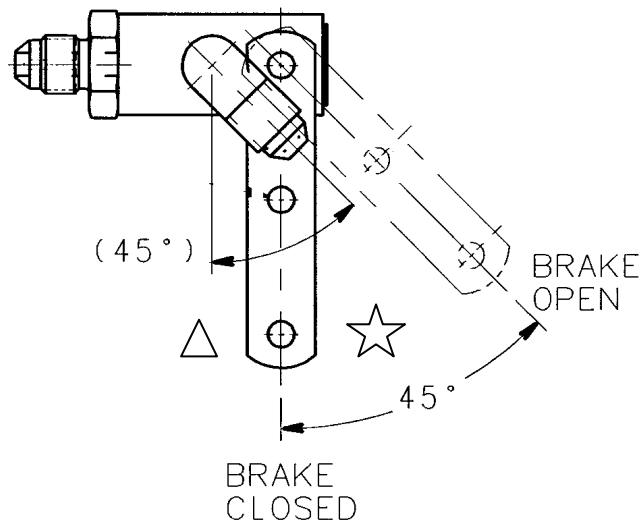

FIGURE 1 60-5 SERIES PARKING BRAKE VALVE
- (1) Locate the mounting position of the parking brake valve.
- (2) Locate the pilot control knob which operates the parking brake valve.
- (3) Inspect the rigging of the cable to verify any slack is per the Airframe Service Manual.
- (4) Confirm 'BRAKE ON': Apply the parking brake in the manner prescribed by the AFM, typically:
- (5) Apply the parking brake in the manner prescribed by the AFM and verify that the aircraft does NOT move when the pilot control knob is in the 'BRAKE ON' position.
- (6) Confirm the parking brake valve is closed by witnessing that the aircraft can **NOT** be moved and verifying that the PBV lever is left of vertical as indicated by the  shown in FIGURE 1.
(a) FIGURE 1 shows the appropriate angular orientation of the valve lever relative to the desired valve function. Units bearing a manufacture date of 8/08 and after the park brake valve should provide a 'BRAKE ON' condition when the lever is vertical. The cam orientation includes additional margin to the right of vertical as indicated by the ☆ to assure proper installation when the PBV lever is vertical. See FIGURE 1.
- (b) On units manufactured prior to TBD the 'BRAKE CLOSED' condition was achieved at a position to the left of vertical as indicated by the Δ in FIGURE 1.
- (c) Secure the pilot control cable to the PBV lever such that the PBV lever is slightly left of vertical as indicated by the Δ in FIGURE 1 while the pilot control knob is in the 'BRAKE ON' position.
- (9) If inspection shows that the parking brake does **NOT** provide a 'BRAKE ON' condition when the pilot control knob is in the 'BRAKE ON' position then repeat the adjustment process to attain the 'BRAKE ON' function.
- (10) "BRAKE OFF" confirmation: Release the parking brake in the manner prescribed by the AFM and verify that the aircraft DOES move when the pilot control knob is in the 'BRAKE OFF'.
- (11) Release the parking brake in the manner prescribed by the AFM, typically:
- (13) If the aircraft moves when the pilot control knob is in the 'BRAKE OFF' position and the PBV lever is right of vertical as indicated by the ☆ shown in FIGURE 1 then the PBV 'BRAKE OPEN' position has been confirmed to be correctly set and the position AND the pilot control knob is in the 'BRAKE OFF' position and verify that the aircraft DOES move. The PBV will be OPEN and allow fluid flow.
- (14) If inspection shows that the parking brake provides a 'BRAKE OFF' condition when the pilot control knob is in the 'BRAKE OFF' position then the PBV 'BRAKE OPEN' function has been confirmed.
- (15) Record the inspection activity in the aircraft log noting date inspected, flight hours on parking brake valve, and flight hours at time of inspection